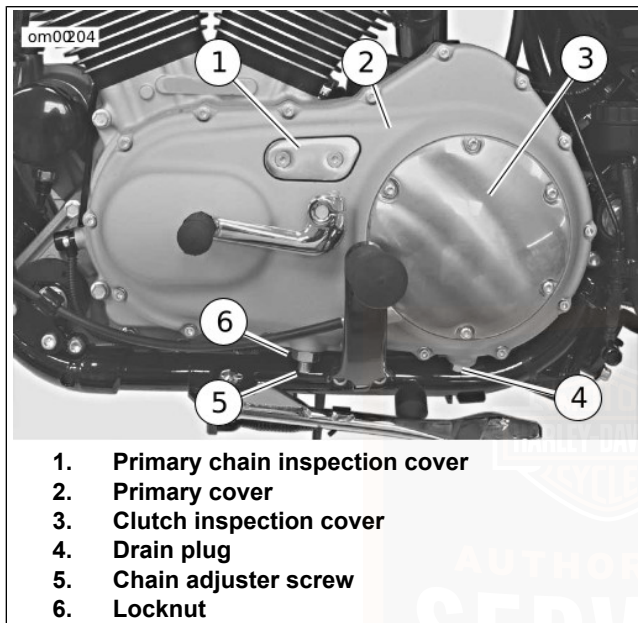

Figure 46. Primary Chain Adjuster: Sportster Models
See Figure 46. The primary chain can be adjusted without removing the primary cover (2).
5. See Figure 46. When tension is set correctly, tighten locknut (6) to 27–34 N·m (20–25 ft-lbs).
- Install primary chain inspection cover (1). Tighten hex socket screws to 4.5–6.8 N·m (40–60 in-lbs).